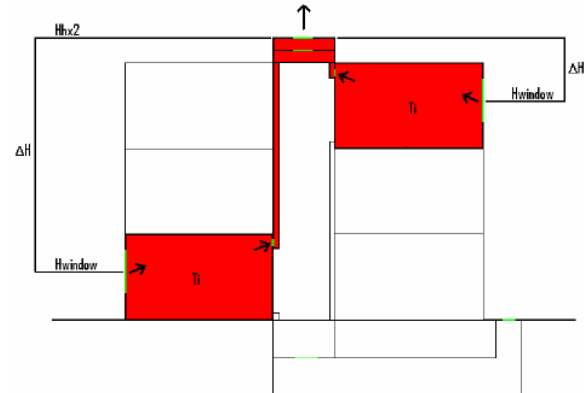

Figure 18. A) Example of passive system with central intake. B) Example of passive system with intake through façade openings (windows)
**Passive ventilation:** Passive ventilation is driven by natural driving forces like pressure differences and stack effect. The program has a small feature for calculating simple systems. The input settings GUI is seen in Figure 17. Two examples of passive ventilation are given in Figure 18.